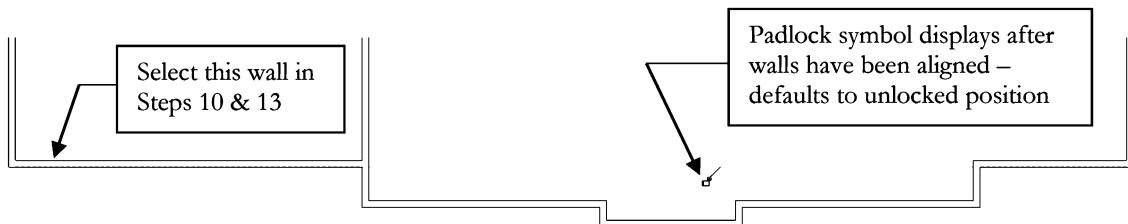

FIGURE 5-2.6 Align tool: select wall(s) to be aligned
10. Now, select the exterior face of the South garage wall (Figure 5-2.6).
11. Click on the **padlock** symbol (Figure 5-2.6).
13. Select the garage wall identified in Figure 5-2.6.